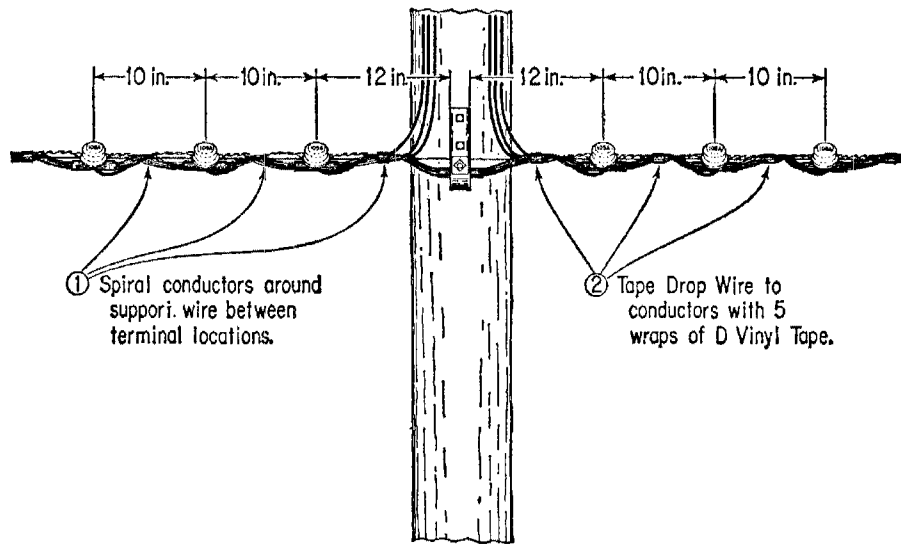

Fig. 10
3.02 A maximum of three wire terminals can be mounted on each side of the wire bracket. The method of installation for each is similar to that in Paragraph 3.01. A complete installation is shown in Fig. 10, although individual terminals are added only as needed. The order of installation would depend on the direction of feed for the drop wires.